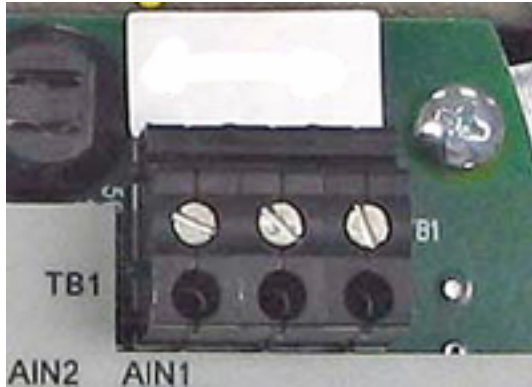
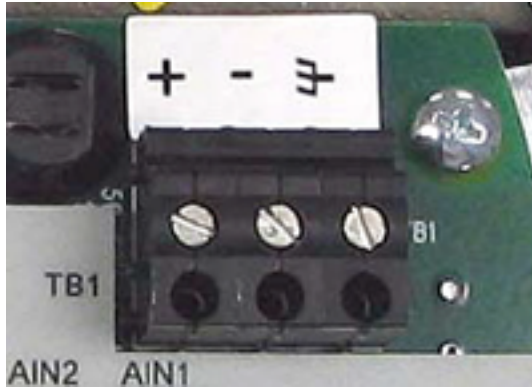

Figure 16: Wiring the AC line power
Figure 17: Wiring the DC line power
See *Figure 16* on page 11 or *Figure 17* on page 11 to locate terminal block TB1 and to connect the line power as follows:
2. Route the cable through one of three conduit inlet ports (see *Figure 15* above) and connect the line power leads to terminal block TB1, using the pin number assignments shown in *Figure 30* on page 17 and *Figure 16* on page 11 or *Figure 17* on page 11.
3. Run the power connections to the *power terminal block* shown in Figure 16 (AC power) or Figure 17 (DC power) above. The use of 12-18 AWG (3.3 – 0.82 mm²) wire is recommended for the power connections.
5. Route the cable through the chosen conduit hole and connect the line power leads to terminal block **TB1**, using the pin number assignments shown in *Figure 31 on page 18* and *Figure 16 on page 11* or *Figure 17 on page 11*.